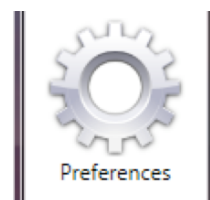

Figure 26
- 1) Open the Preferences/Port drop down menu by clicking on the **PREFERENCES** button on the Tool Panel (Figure 26).